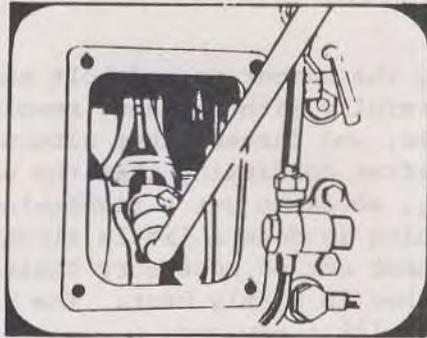

Fig. 11
(1) First, take off cylinder side cover and stretch the bent split pins of rod bolts.
(2) Take off rod bolts one after the other as shown in Fig. 11 taking care not to drop the spanner.